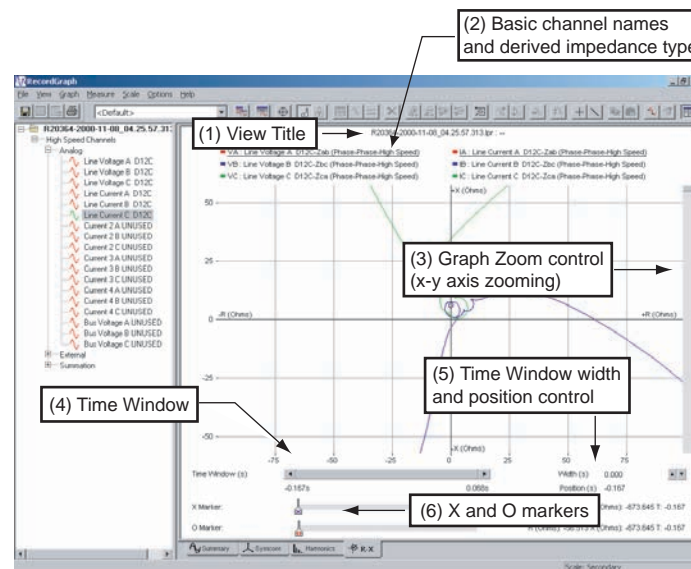

Figure 11.65: Opening Impedance Screen
- (1) A text component displays the title at the top of the Impedance View shown in Figure 11.65: Opening Impedance Screen. The title is compiled from items in the Title Options dialog box. Default title is the file name and trigger event.
- (2) The basic channel names are displayed below the title.
- (3) The graph zoom is controlled using the sliding control on the right side of the window. The R-X plot aspect ratio is maintained under all zooming tools. The graph zoom control offers a 10x zoom factor between minimum and maximum amplitude of the data (R and X coordinates).
- (4) The Time Window control provides a means to select the range of data for better presentation of R-X values. For example, if the voltage and current channels are recorded from 0.0 to 0.2 seconds with 1000 data points, using this control, you can choose to view only 0.1 second data (500 points).
- (5) Time window width and position control can be used for the precise data analysis.
- (6) Control the X and O markers.